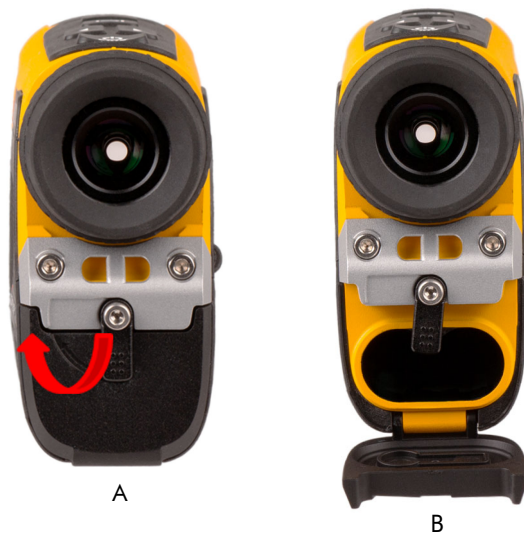

Figure 4
1. Open the battery compartment cover by gently pressing and sliding the lever up (Figure 4).